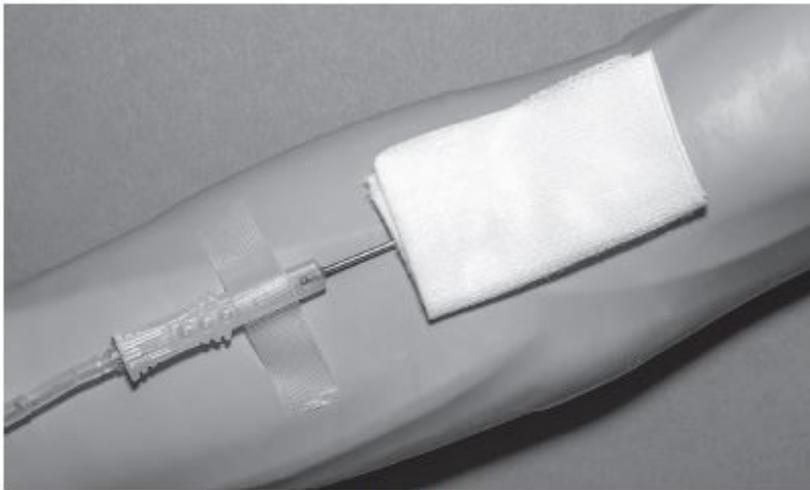

Figure 2
9. When good blood flow is established, stabilize the front of the needle guard to arm with tape (see Figure 2).